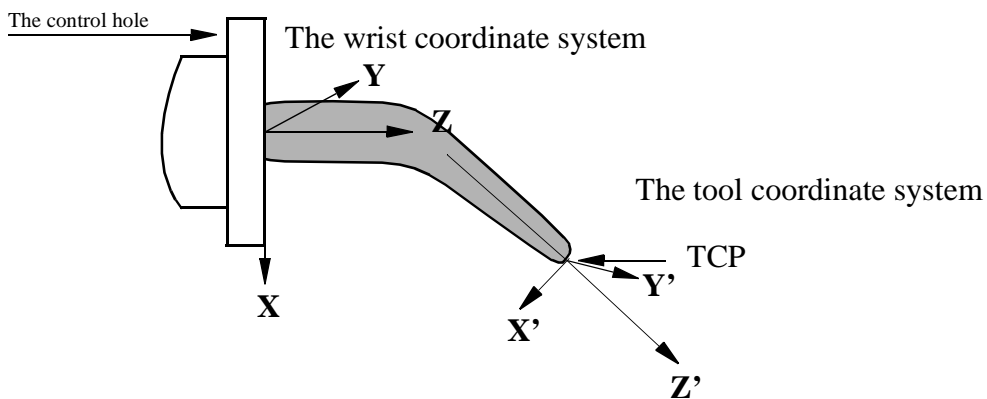

Figure 1 Definition of the tool coordinate system.
- The position of the TCP (x, y and z) in mm, expressed in the wrist coordinate system (See figure 1).
- The orientation of the tool coordinate system, expressed in the wrist coordinate system as a quaternion (q1, q2, q3 and q4) (See figure 1).
The tool in Figure 1 is described using the following values: